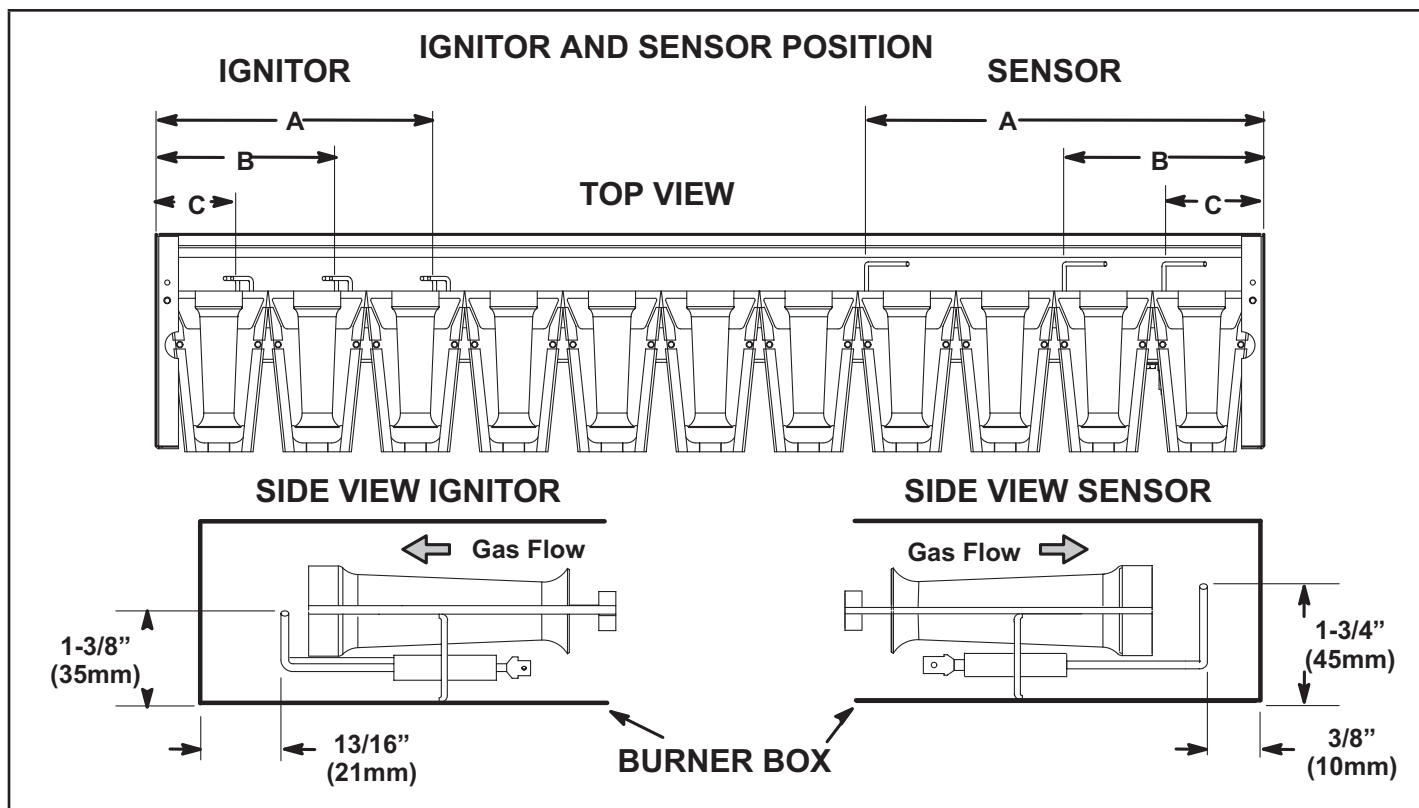

FIGURE 39
- 5 - Check the alignment of the ignitor and the sensor as shown in FIGURE 39 and TABLE 16.